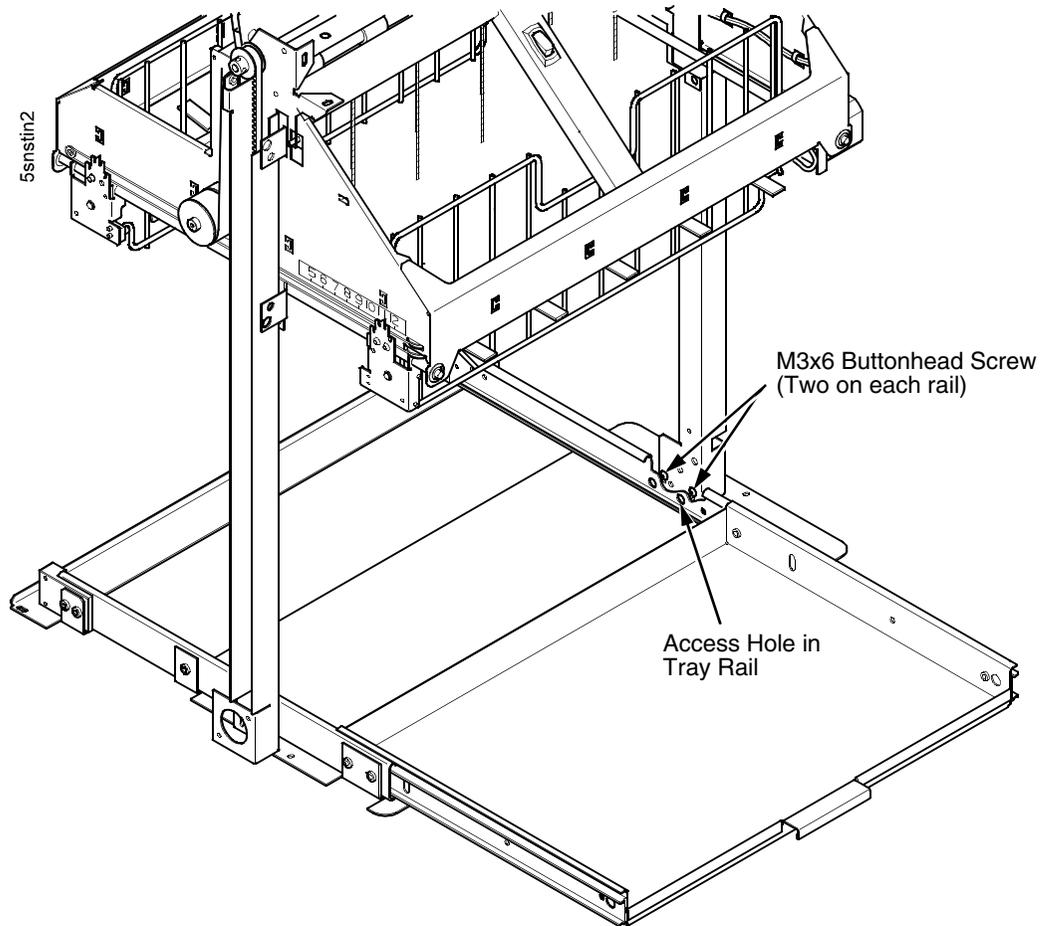

Figure 73. The Lower Screws in the Vertical Rails
9. Pull the paper tray out until the holes in the rails permit access to the M3 buttonhead screws. (Figure 73.)
10. Loosen one turn—do not remove—the M3x6 screws securing the vertical rails to the stacker base. Each rail is secured by two screws. (Figure 73.)
11. Pull the paper tray out until the holes in the rails permit access to the M3 buttonhead screws. (Figure 73.)
12. Loosen one turn—do not remove—the M3x6 screws securing the vertical rails to the stacker base. Each rail is secured by two screws. (Figure 73.)